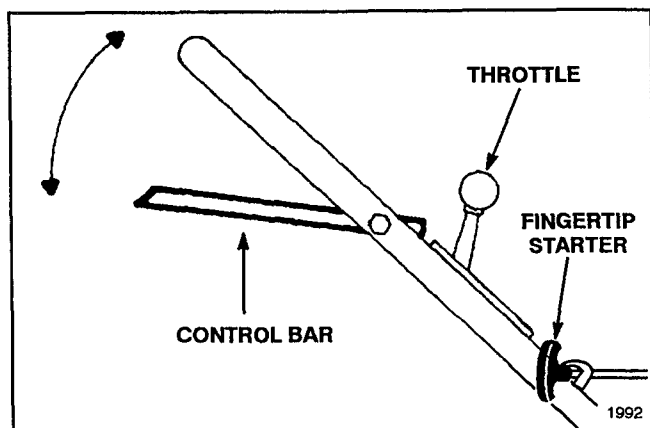
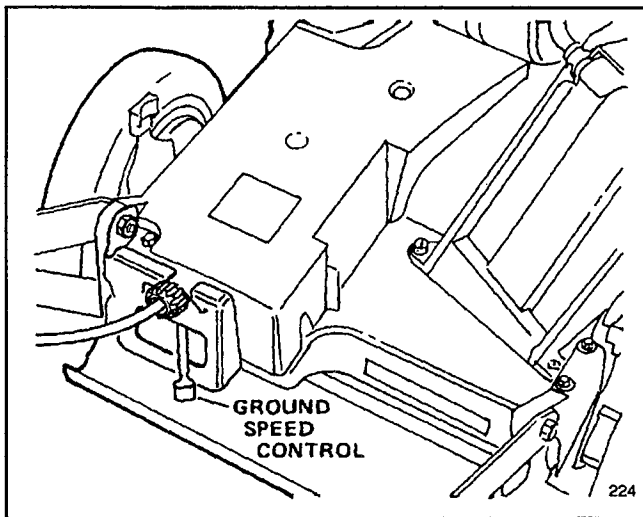

Figure 11
Figure 12
1. CONTROLS—Throttle control, control bar and fingertip starter are on upper handle (Fig. 11). Ground speed control is located at rear of belt cover (Fig. 12).
4. Move ground speed control to desired speed selection (Fig. 12).
5. TRACTION OPERATION—Squeeze control bar against handle to drive. Ground speed varies, depending on space between control bar and handle (Fig. 11).